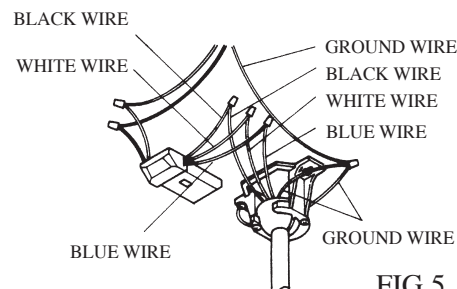

FIG.5
2. Connect the black wire from receiver to the black wire from fan with wire nut. Connect the white wire from receiver to the white wire from fan with wire nut. Connect the blue wire from receiver to the blue wire from fan with wire nut. Connect the green wire from outlet box and the green wires from fan with wire nut (see FIG 5).